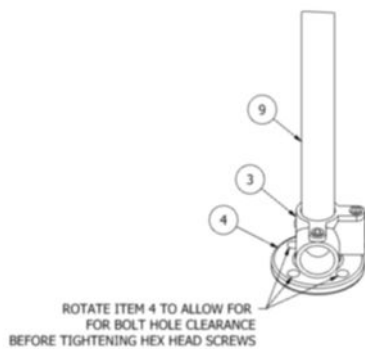

FIGURE 5
1. Slide ITEM 3 over threaded end of ITEM 9 and thread ITEM 4 creating a front vertical stanchion. **SEE FIGURE 5.** *Note: Tighten ITEM 4 to ITEM 9 aligning bolt holes such that sufficient room for bolt placement is available (see note on FIGURE 5).*
3. After adjusting each instance of ITEM 4 to assure bolt insertion clearance, tighten hex head set screws on ITEM 1 and ITEM 3. **SEE FIGURE 5 & 6.**